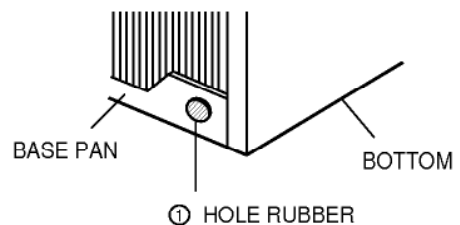

Figure 16
If the air conditioner is used in a hot and high humidity zone, exchange the ① HOLE RUBBER for the ② DRAIN PIPE. (See figure 16, figure 17.)